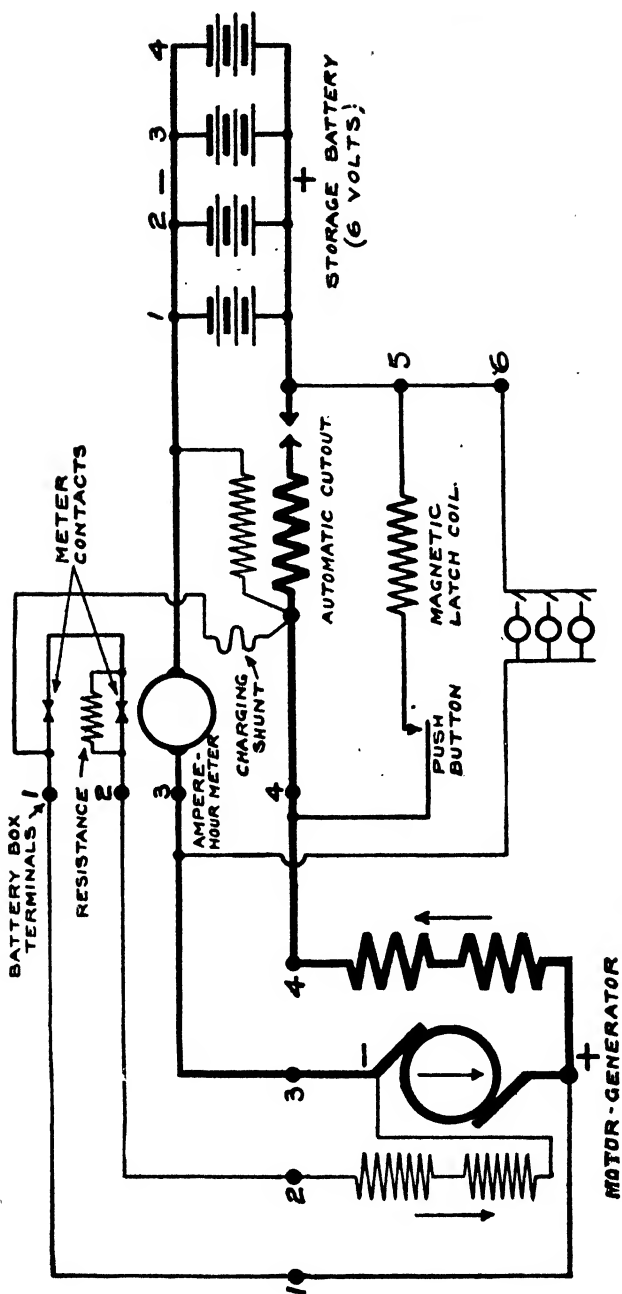

Fig. 244. Wiring Diagram for Generator Circuits of Delco Installation on Cadillac 1912 Model
*Cadillac.* Wiring diagram of the 1912 model is given in Fig. 244. Reference to a model as early as this is made to show the pro-
gressive steps represented by each succeeding year; also because there are a great many of these cars still in use. Twelve cells of battery were employed though the dynamo generated current at 7 to 8 volts (nominally a 6-volt system), and as shown by the diagram which illustrates the connections of the generator circuit, the battery was divided into four groups of three cells each in series-multiple for charging. An ampere-hour meter showed the state of charge of the battery and also indicated how much current was consumed by the various circuits, including the starting motor. Regulation was by means of extra resistance inserted in the field circuit of the generator and an automatic battery cut-out was employed. The diagram shown in Fig. 244 is applicable to the connections of all the Delco 6—24-volt systems in use, when the machine